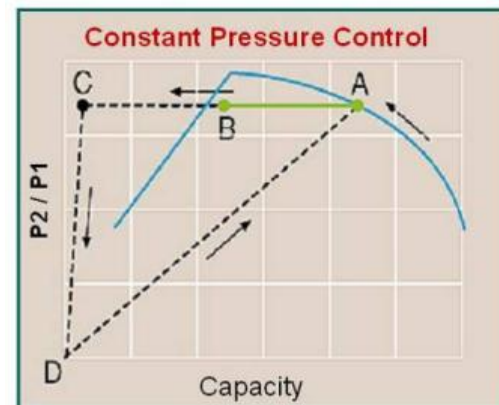

Fig. 2
Constant Pressure Control with Modulating Unloading Regulation (UV) (See Figure 2)
- At the minimum throttle point (B), the position of the IBV/IGV is maintained as fixed, and the unloading valve (UV) starts to modulate open.
- Some controls can also provide for a maximum unloading valve (UV) position to be programmed. This allows the owner to minimize inefficient operation during periods of low demand by limiting unloading operation to a point between (B→C).